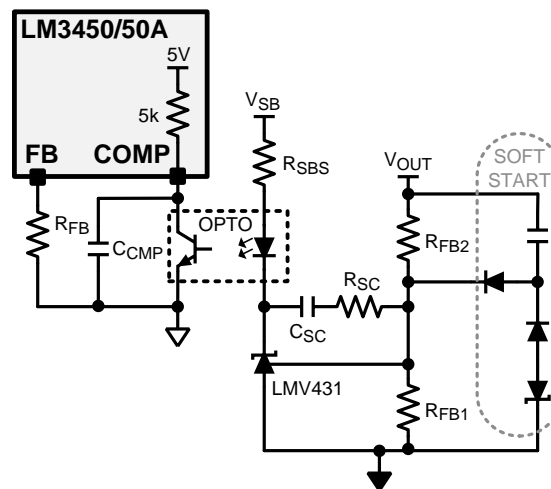

Figure 23. Secondary Error Amplifier
For isolated designs, the error amplifier on the secondary should take the form of a proportional integral (PI) compensator. The amplifier is frequently implemented with an LMV431. The output voltage resistor divider ( $R_{FB1}$ ,  $R_{FB2}$ ) provides the sensed output voltage to the LMV431 inverting input. The PI compensation is achieved by connecting  $R_{SC}$  and  $C_{SC}$  in between the LMV431 input and output, shown in Figure 23. In addition,  $C_{COMP}$  is placed from COMP to GND on the primary for higher frequency noise attenuation.
In addition to the basic error amplifier, a soft-start circuit can be implemented using a capacitor, two diodes and a Zener diode as shown in Figure 23. This secondary softstart circuit has no restart mechanism, therefore a primary side softstart is recommended as described in the **SOFTSTART** section of this document.